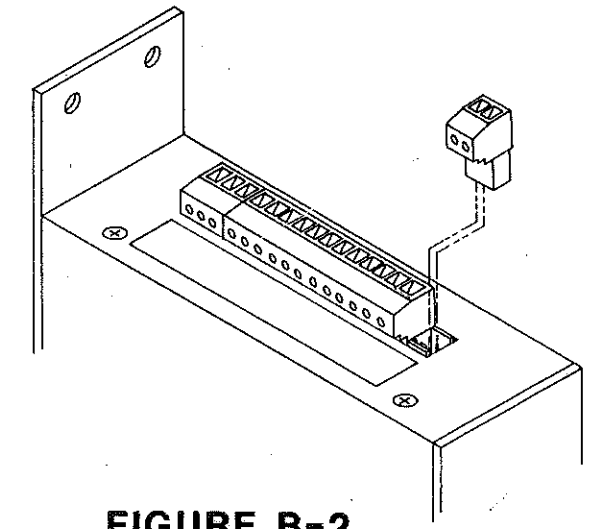

FIGURE B-2
- B-2. Unit features plug-in type terminal blocks. Terminal block may be unplugged from unit when making connections. (Refer to Figure B-2)